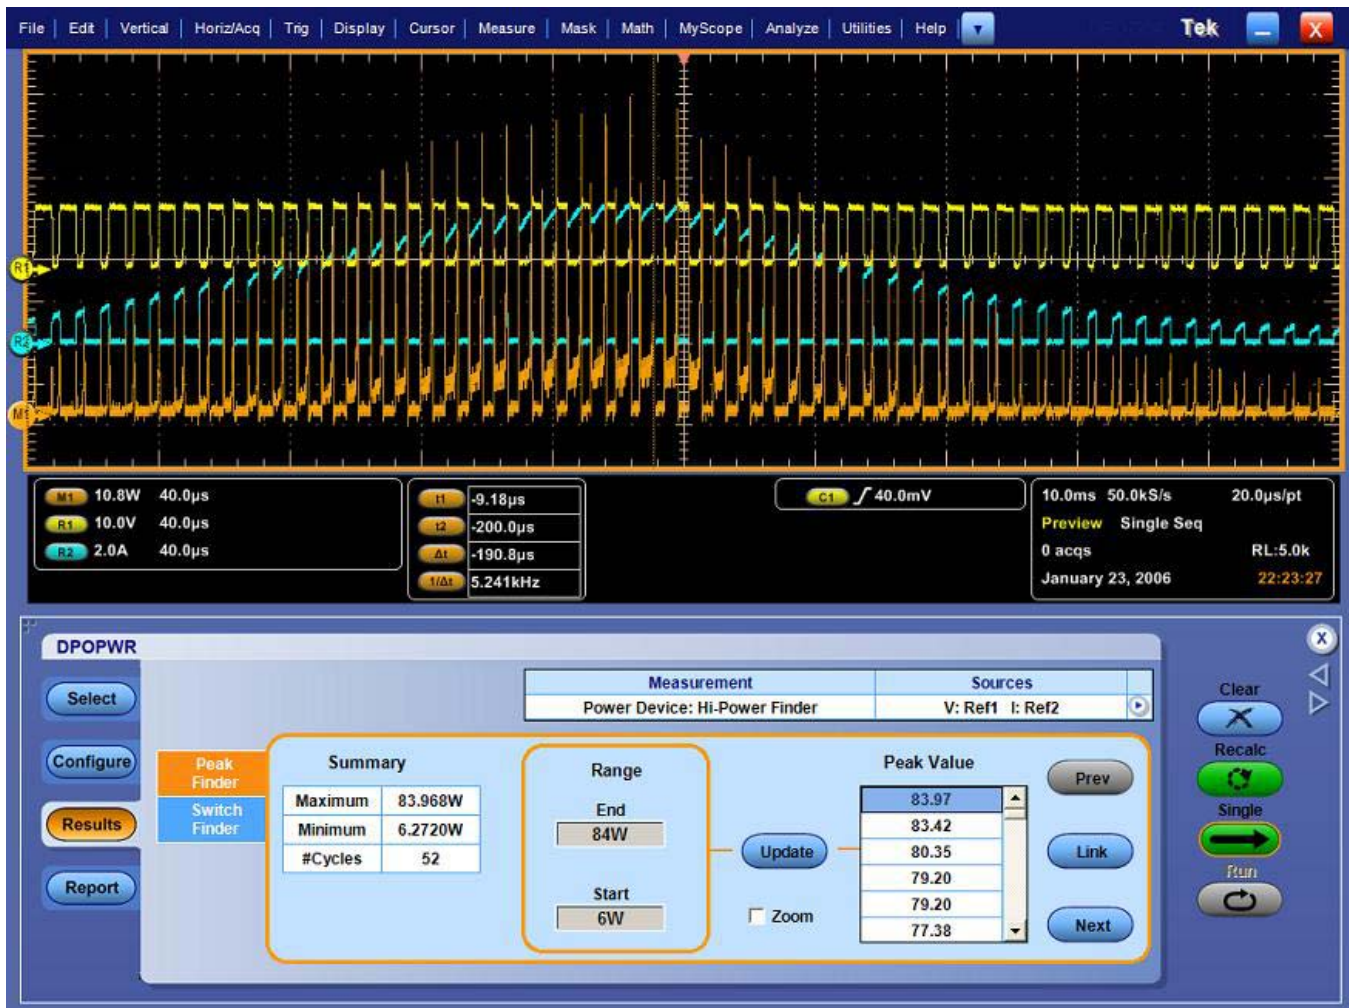

Figure 15: Hi-Power Finder results-Peak finder tab
2. The application displays the results for Hi-Power Finder measurement as shown in Figure 15.